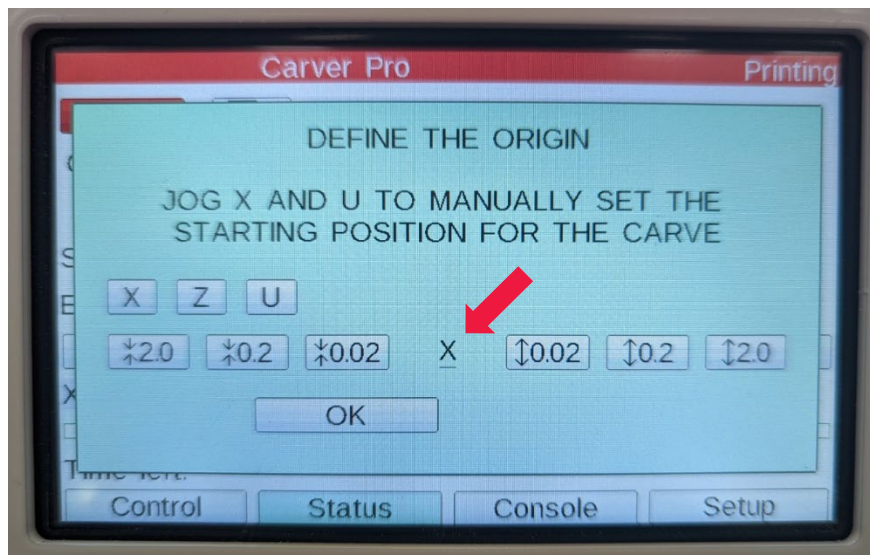

Figure 79: User Message to Define 0 Point of X and U Axis
1. Connect to the Carver PRO-S™ via the web interface, as seen in Figure 79, by typing the carver's IP address into a web browser.